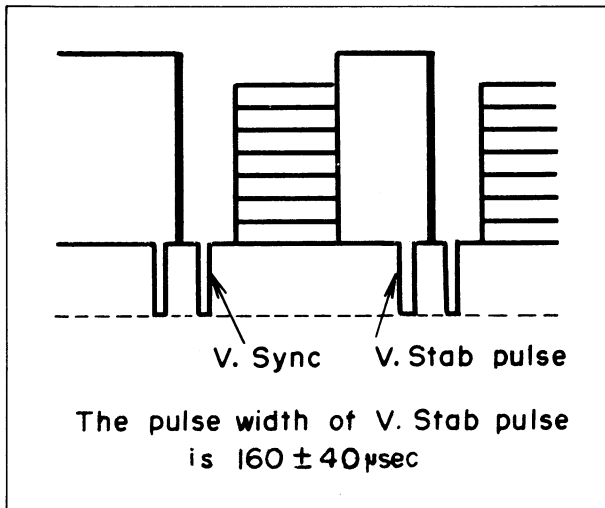

Fig. 5-78. Slow motion mode output waveform
2. Adjust R84 Vertical Stabilizing (V. Stab) Pulse Level so that the pulse becomes the same level as the sync, as shown in Fig. 5-78.